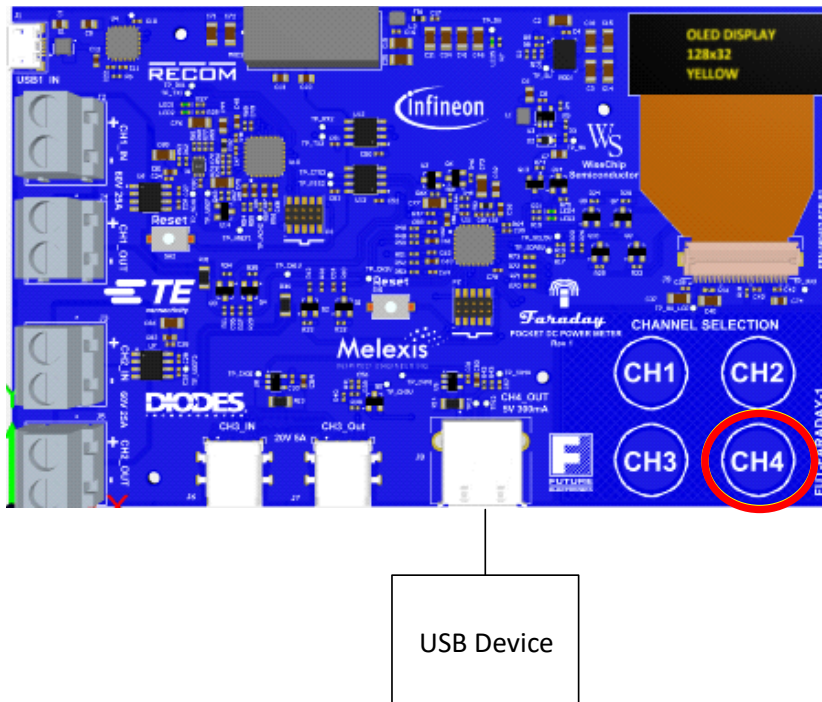

Figure 4. Voltage, Current & Power Measurement on USB Port Using Channel 4
4. Connect an USB device on the channel 4 USB-A connector to measure Voltage, Current and Power of an USB device as shown in **Figure 4**